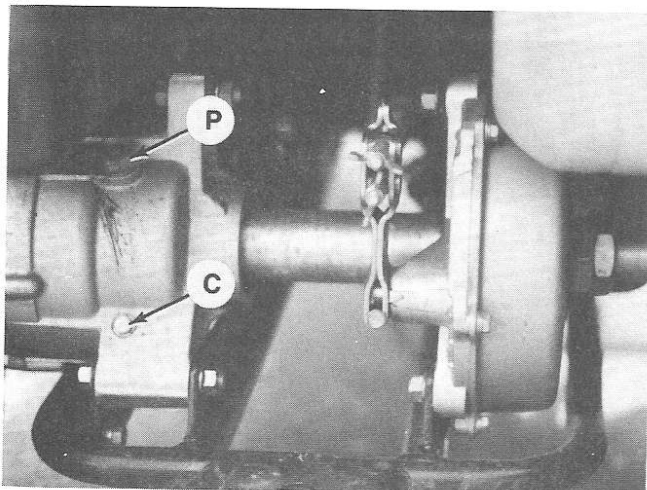

Fig. K4-3—View identifying differential case oil level plug (C) and fill plug (P). Drain plug is located at base of differential case.
Differential case is checked at plug (C—Fig. K4-3) and filled through oil plug (P) opening. Oil is drained through plug at the base of the differential case. Oil should be maintained at level of oil plug (C) opening when vehicle is positioned on a flat level surface. When renewing oil, first operate vehicle to allow differential case oil to pick up any contaminants within the case and to allow oil to warm-up for easier drainage. Then remove drain plug at base of differential case and fill plug (P) and allow oil to drain into a suitable container.